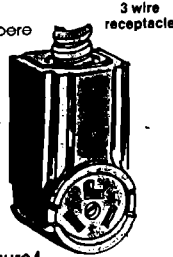

Figure 1
- Local codes may permit the use of a flexible type 30 ampere UL listed power supply cord (pigtail) with no smaller than No. 10 copper wire to match three-wire receptacle of NEMA Type 10-30R shown in Figure 1. A UL listed strain relief must be provided at the point the power supply cord enters the appliance.